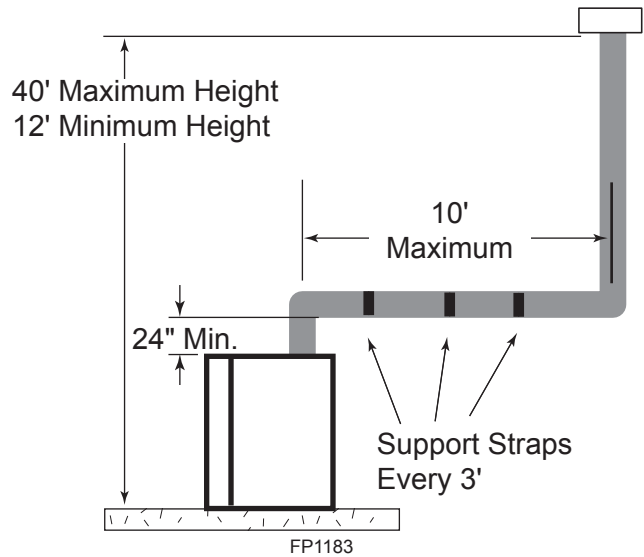

Figure 18 - Support Straps for Horizontal Runs
- Vertical installations up to 40' (12 m) in height. Up to a 10' (3 m) horizontal vent run can be installed within the vent system using a maximum of two 90° elbows. *Figure 18*
NOTE: If an offset is needed to avoid obstructions, you must support the vent pipe every three (3) feet. Use wall straps for this purpose. See Figure 18, page 19. Whenever possible, use 45° elbows instead of 90° elbows. The 45° elbow offers less restriction to the flow of the flue gases and intake air.